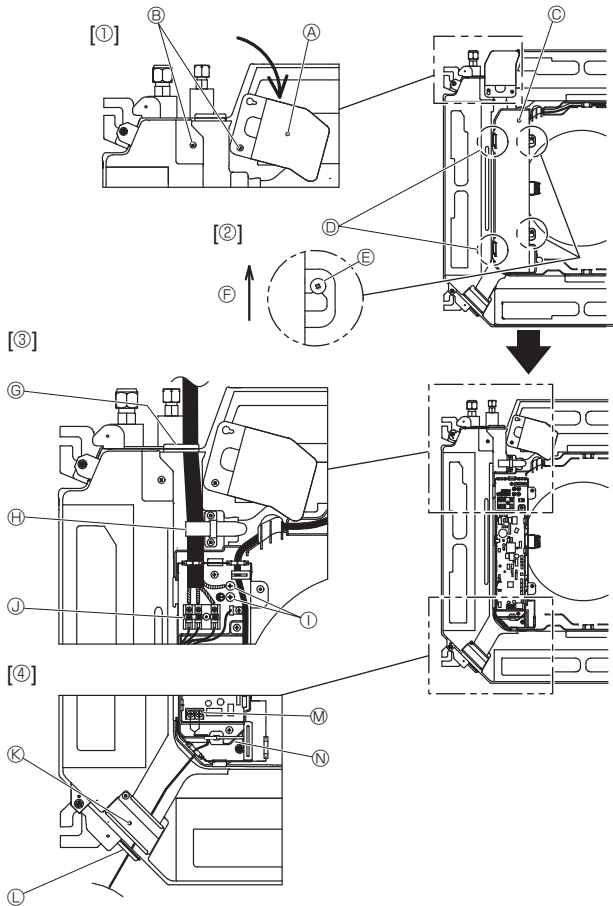
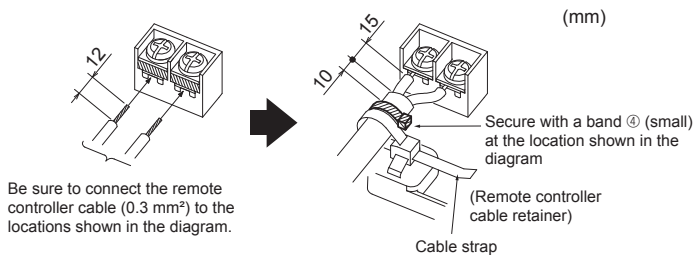

Fig. 6-1
Fig. 6-3
6.1. Indoor unit (Fig. 6-1)
- Loosen the two screws securing the electrical wiring service panel, and then turn the electrical wiring service panel. [Fig. 6-1 ①]
- Loosen the two screws securing the electrical box cover, then slide the electrical box cover. [Fig. 6-1 ②]
- Pass the power cable, indoor/outdoor unit connecting cable and ground wire through the wiring entries given in the diagram. [Fig. 6-1 ③]
If you cannot use round crimped terminals, see Fig. 6-3 to 6-6.
- Pass and wire the remote controller cable through the wiring entries given in the diagram. [Fig. 6-1 ④, Fig. 6-3]